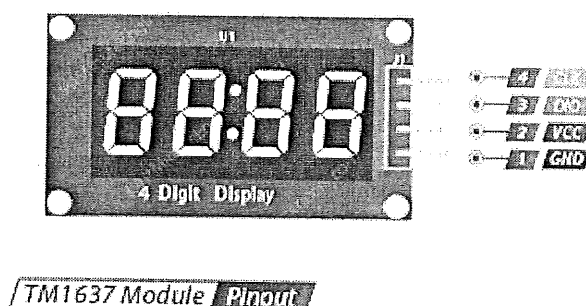

Figure 4: TM1637 module
- b) Using four (4) 7-segment displays in **TM1637 module**, design a counter that counts from 0 to 9999 with an increment of 3 when a button is pushed.
- i) Produce the schematic diagram for the connection between Pi Pico, push button and TM1637 module. Refer figure 4 for Tm1637 module. (15 marks)